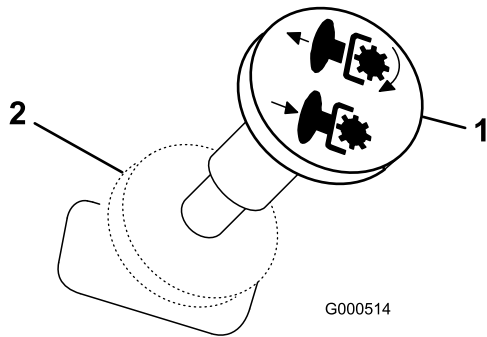

Figure 10
3. Pull out on the blade control switch to engage blades (Figure 10).
Push the blade control switch to Off to disengage the blades (Figure 10).